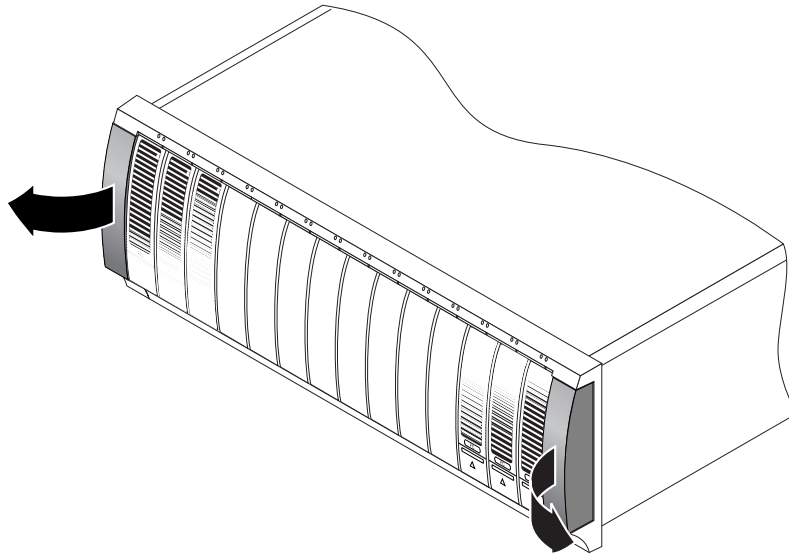

FIGURE 2-13 Removing the End Caps on the Enclosure
1. **Unsnap and remove the left and right end caps on the enclosure to permit access to the screw mounting holes (FIGURE 2-13).**